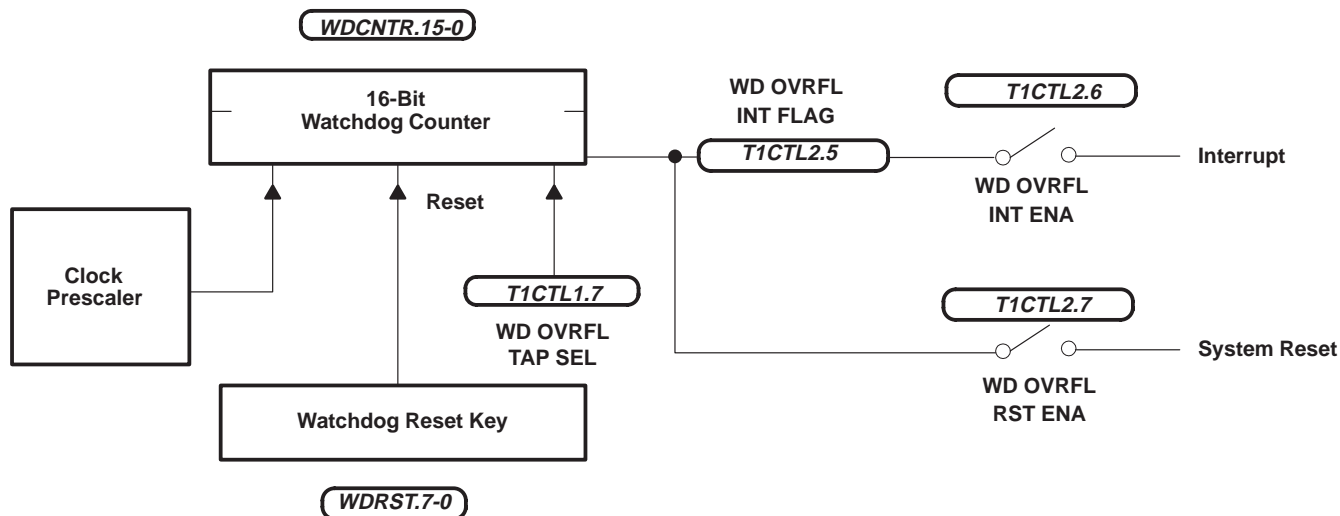

Figure 8. Standard Watchdog
- Standard WD configuration (see Figure 8) for 'C742A EPROM and mask-ROM devices: